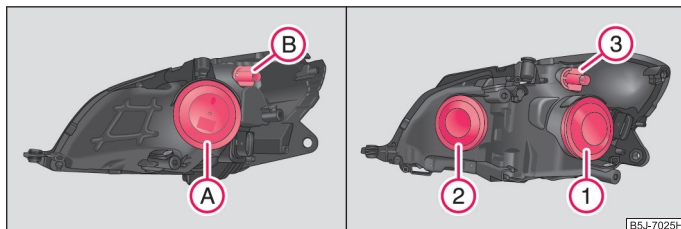

Fig. 167 Fitting position of the bulbs: Halogen headlights / halogen projector headlights
Positions of the light bulbs in the halogen headlights ⇒ fig. 167 on the left and in the halogen projector headlights ⇒ fig. 167 on the right.
- Remove the protective cap Ⓐ ⇒ fig. 167.
- Remove the protective cap ① ⇒ page 201, fig. 167 on the right.
- Remove the protective cap ② ⇒ page 201, fig. 167 on the right.
- Turn the socket ⑥ (halogen headlight) ⇒ page 201, fig. 167 or the socket ③ (halogen projector headlight) to the left and take it out together with the light bulb for the turn signal light.
- Remove the protective cap ①A (halogen headlight) or ② (halogen projector headlight) ⇒ page 201, fig. 167.